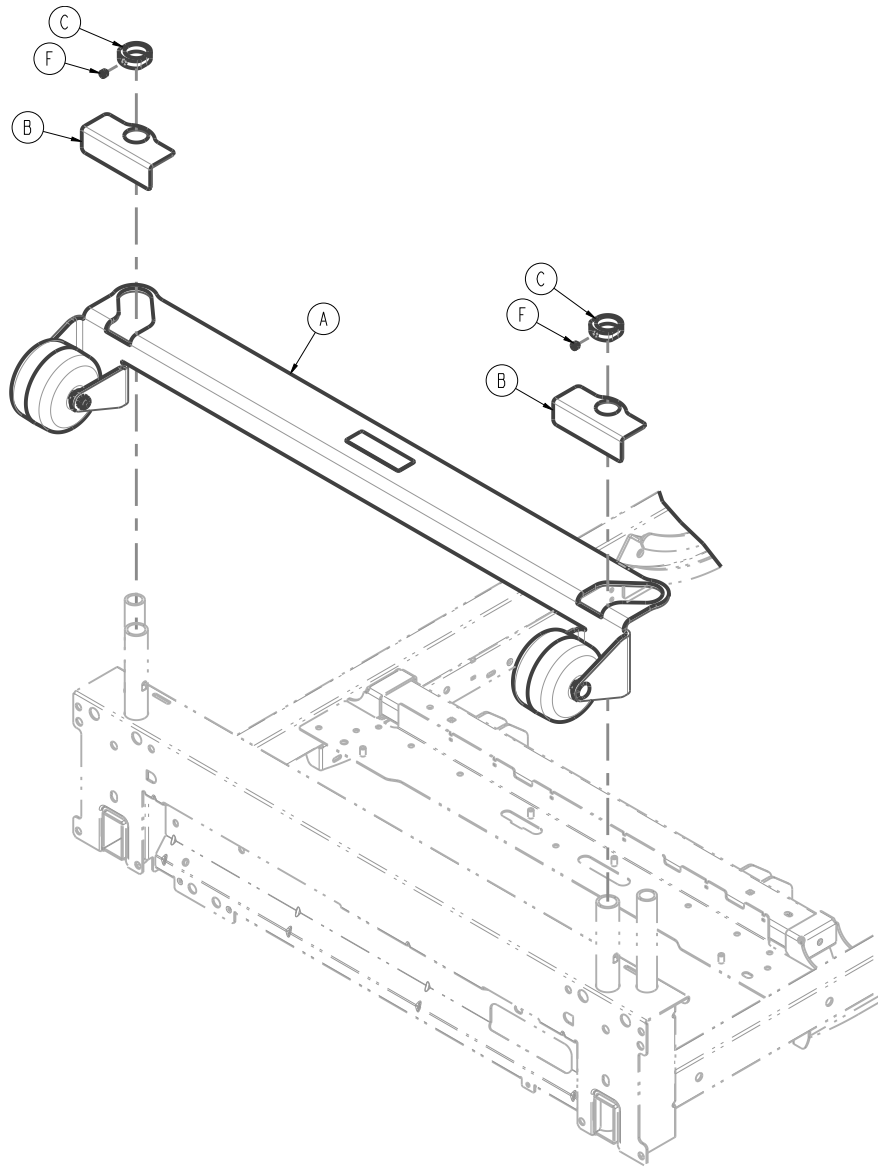

Figure 58 – Attaching the roller bumper
7. At the head end of the product, attach the roller bumper (A) to the bed IV post (Figure 58).
8. Slide the retaining bracket (B) over each side of the roller bumper (Figure 58).
9. Slide the lock collar (C) over each side of the roller bumper (Figure 58).
11. While you press down on the lock collar (C), use the 1/8" hex wrench to tighten the set screw (F) (Figure 58). If your product is equipped with the IV pole option, use the base of the IV pole to push down on the lock collar (C).